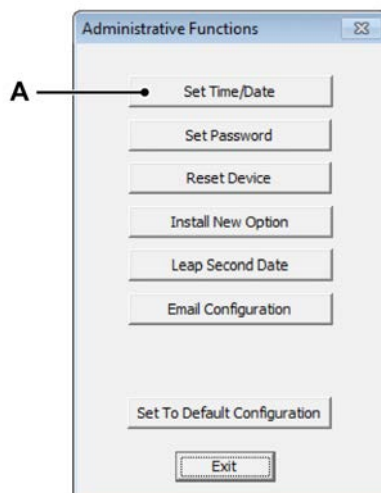

Figure C.71: Administrative Functions - GMR1000
- 9 Edit the date by clicking on the **Set Time/Date** button in the **Administrative Functions** dialog (see Figure C.71).